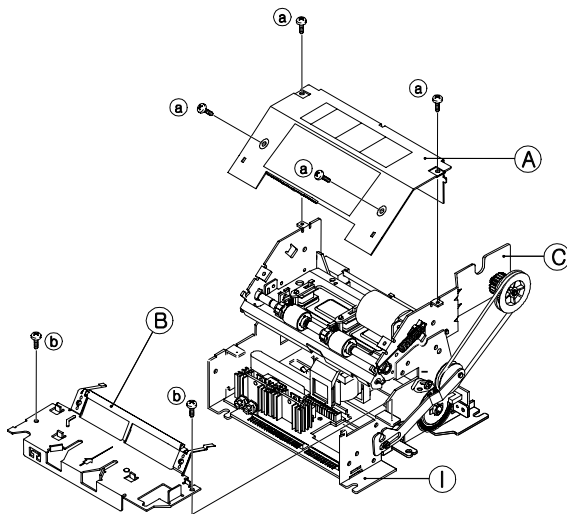

Figure 4-1. Printer Disassembly
1. Remove the four screws (a) on the Upper Frame Assembly, C, and remove the Cover, A. See Figure 4-1, below.
4. Position the Ribbon Frame, B, on the Lower Frame Assembly, I, and replace the two screws (b) (see Figure 4-1, above)